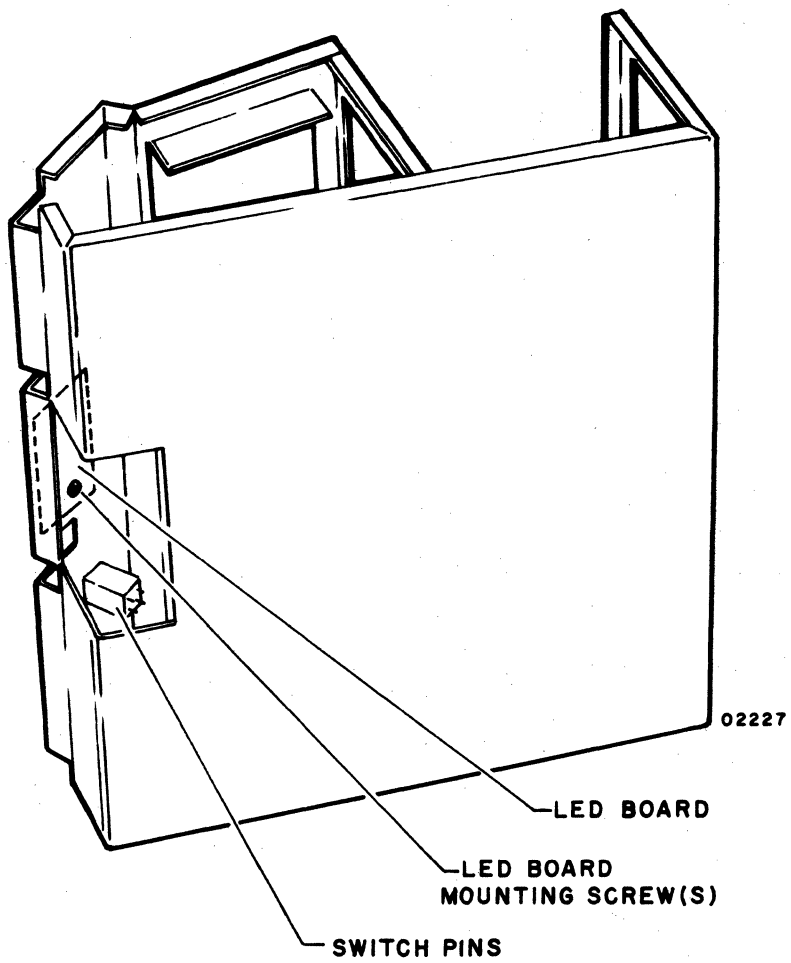

Figure TCU7. Bottom View of Chassis (Removed From Cabinet Base)
The LED board (figure TCU7) is considered as an on-site spare module (see Spare Parts List, section 8). If an LED appears burnt out, or otherwise is not working, remove and replace the LED board as follows:
- 6) Grasp metal chassis framework on each side near drive(s) and lift/work it up/free from cabinet base. Set freed chassis up on its side (either left or right as you prefer) on a firm, level surface (figure TCU7).
- 7) Use a short stubby screwdriver to remove the two LED board mounting screws (with washers) and gently work freed board out through bottom access opening in chassis until all pins on LED board are easily accessible (figure TCU7).
- 3) Access suspect switch contacts by either reaching in with meter probes from open ends of front panel and/or by reaching in behind suspect switch and pressing/working it out of front panel until its contacts are accessible from outside front panel. Be careful not to bend or loosen any wire contacts on any switches when working behind front panel. If more access is preferred (such as to get at a middle switch), remove chassis from out of its cabinet base (procedure TCU10, steps 3 through 6). This allows access through large hole under LED board (figure TCU7).